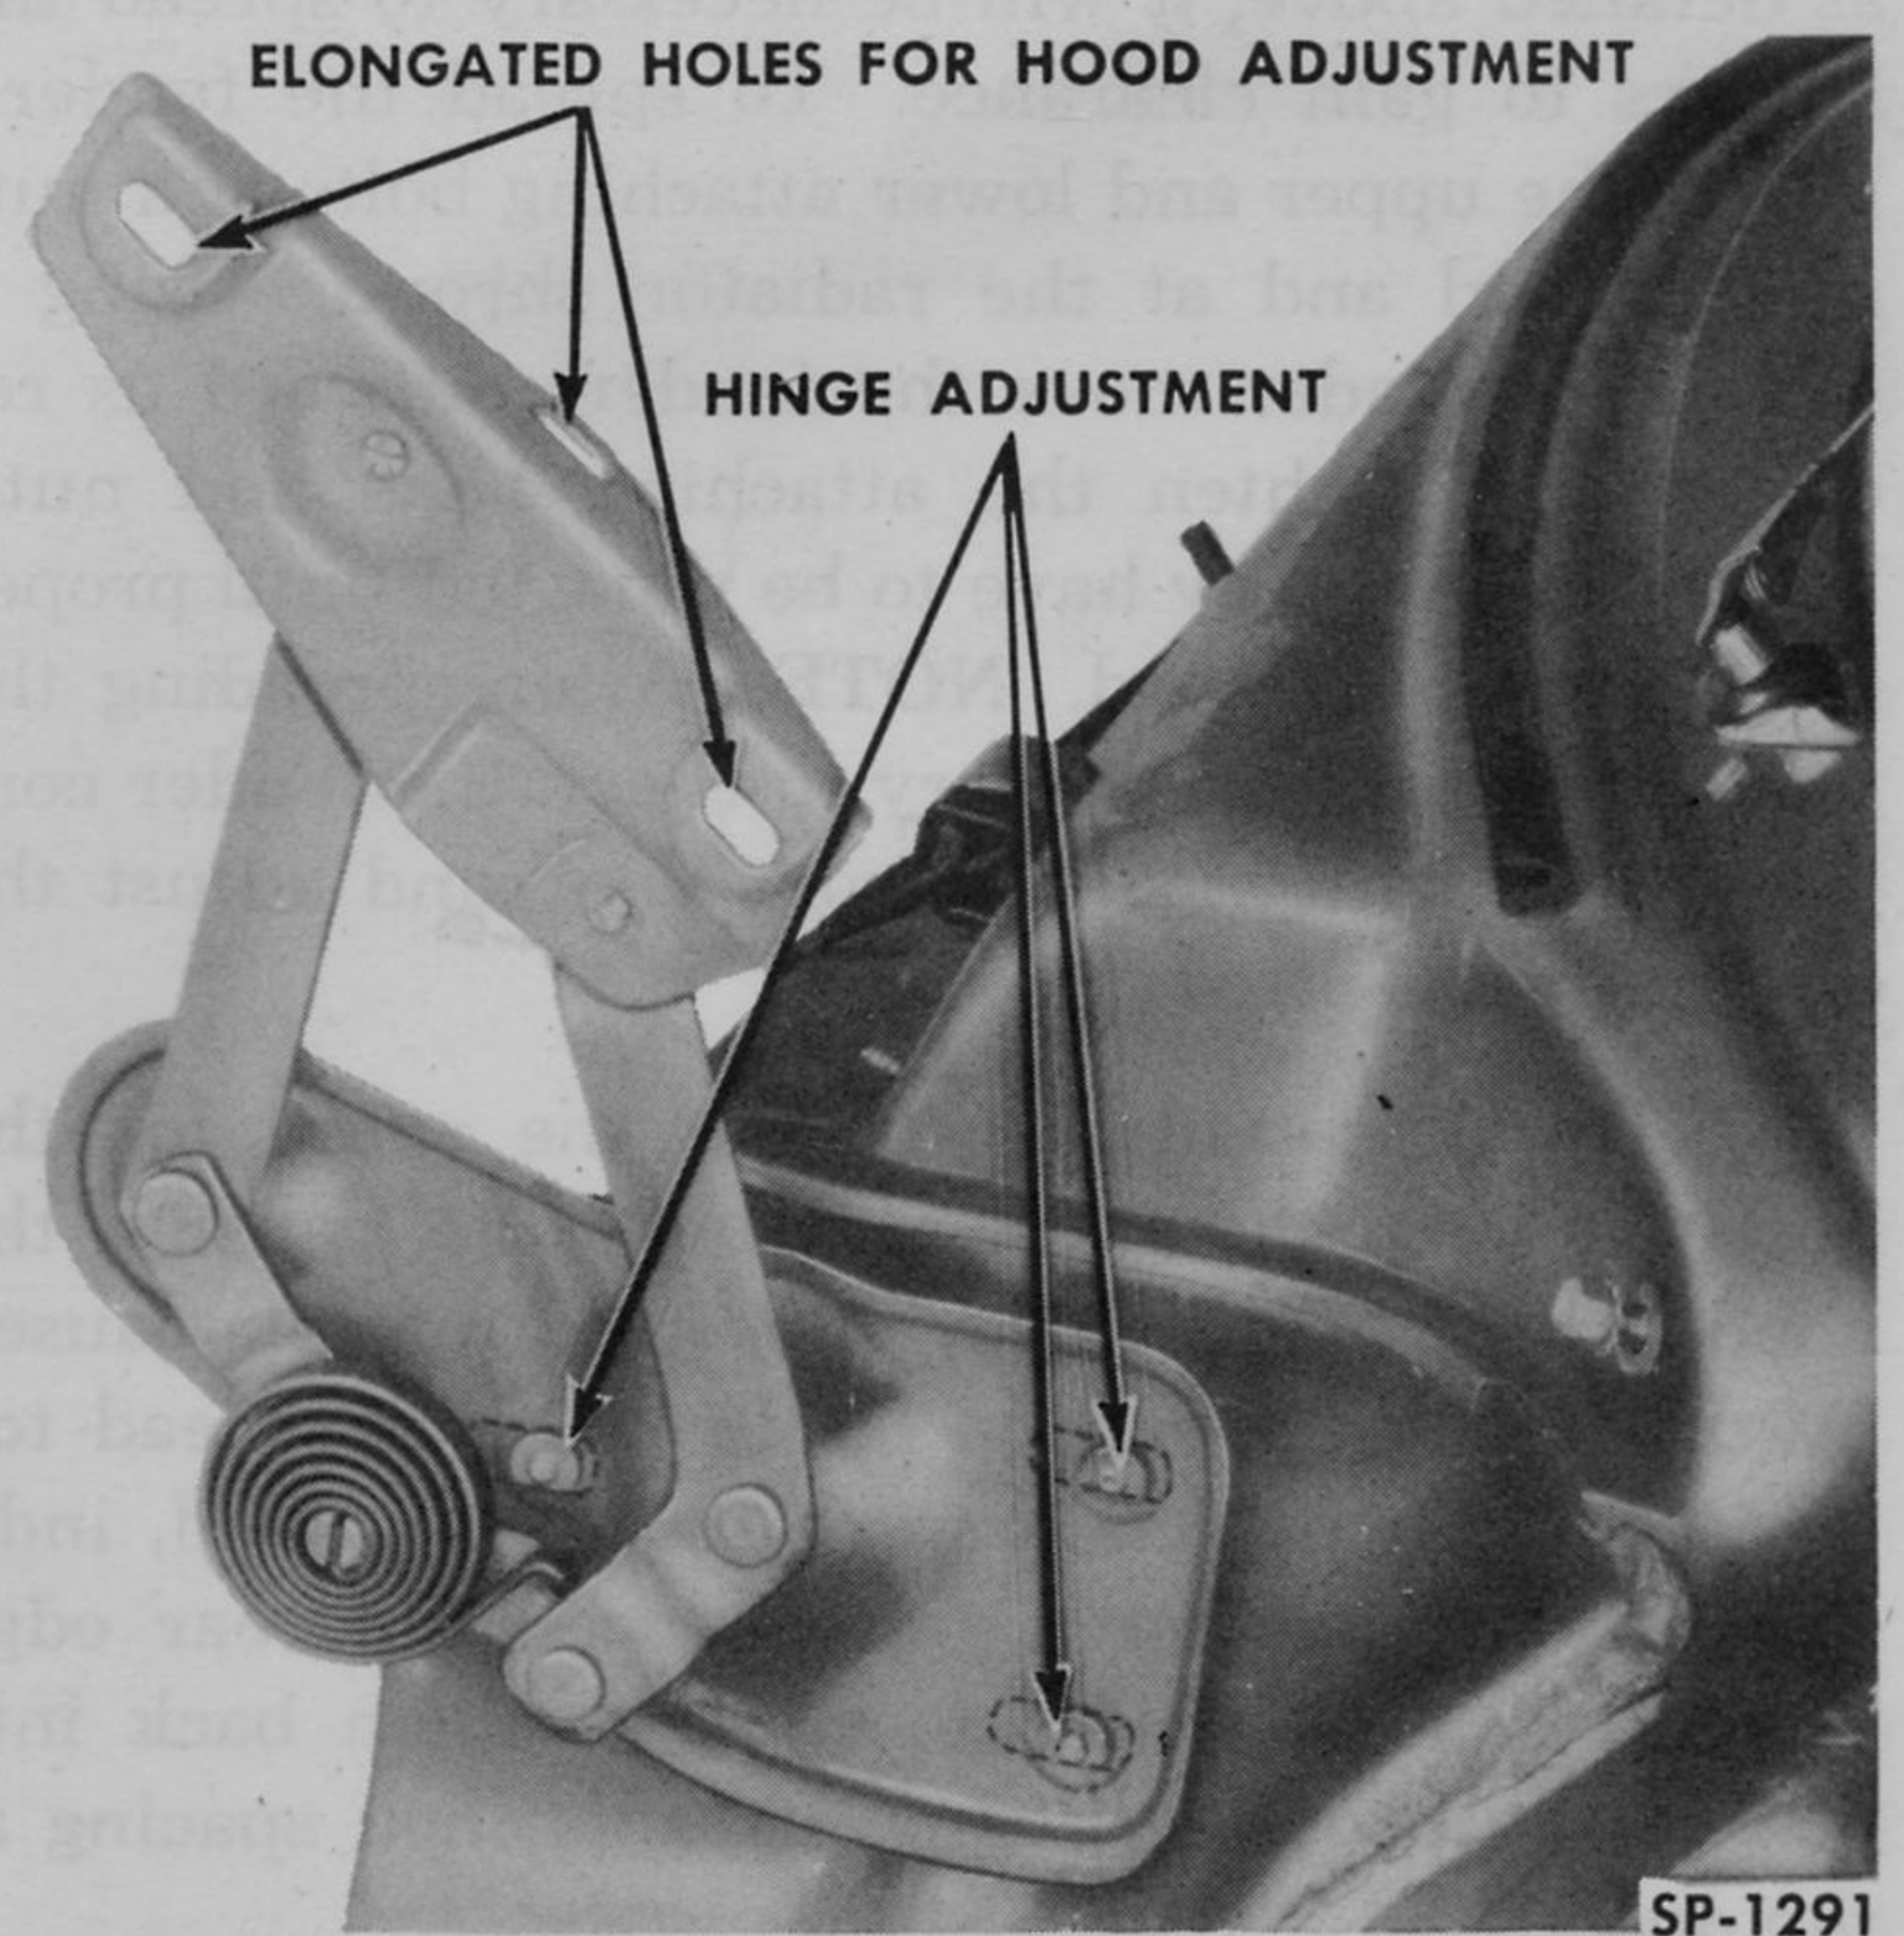

Fig. 338—Hood Hinge Adjustment Points—Kaiser
**1. Hood Alignment—Kaiser.** Holes in the side of the cowl for mounting the hood hinges are elongated to permit fore and aft adjustment of the hood and hinges. Although seldom necessary, some up and down adjustment is possible at the same point. Hood hinge to cowl stud nuts are accessible inside the body behind the instrument panel under the body insulator pad. Similar adjustment is also provided at the elongated holes in the hood mounting points of the upper hinge arms (Fig. 338).